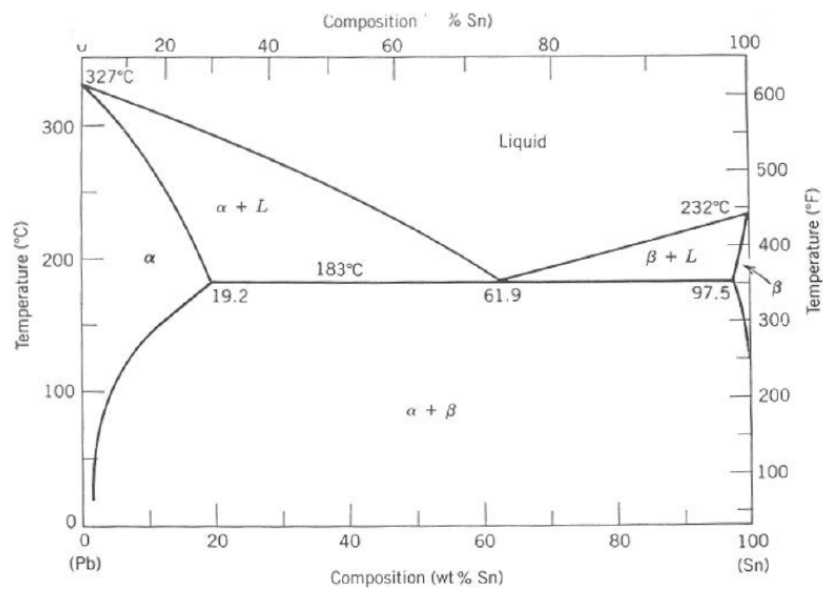

Figure .4: Pb-Sn phase diagram.
- Consider the Pb-Sn phase diagram (see Figure .4).